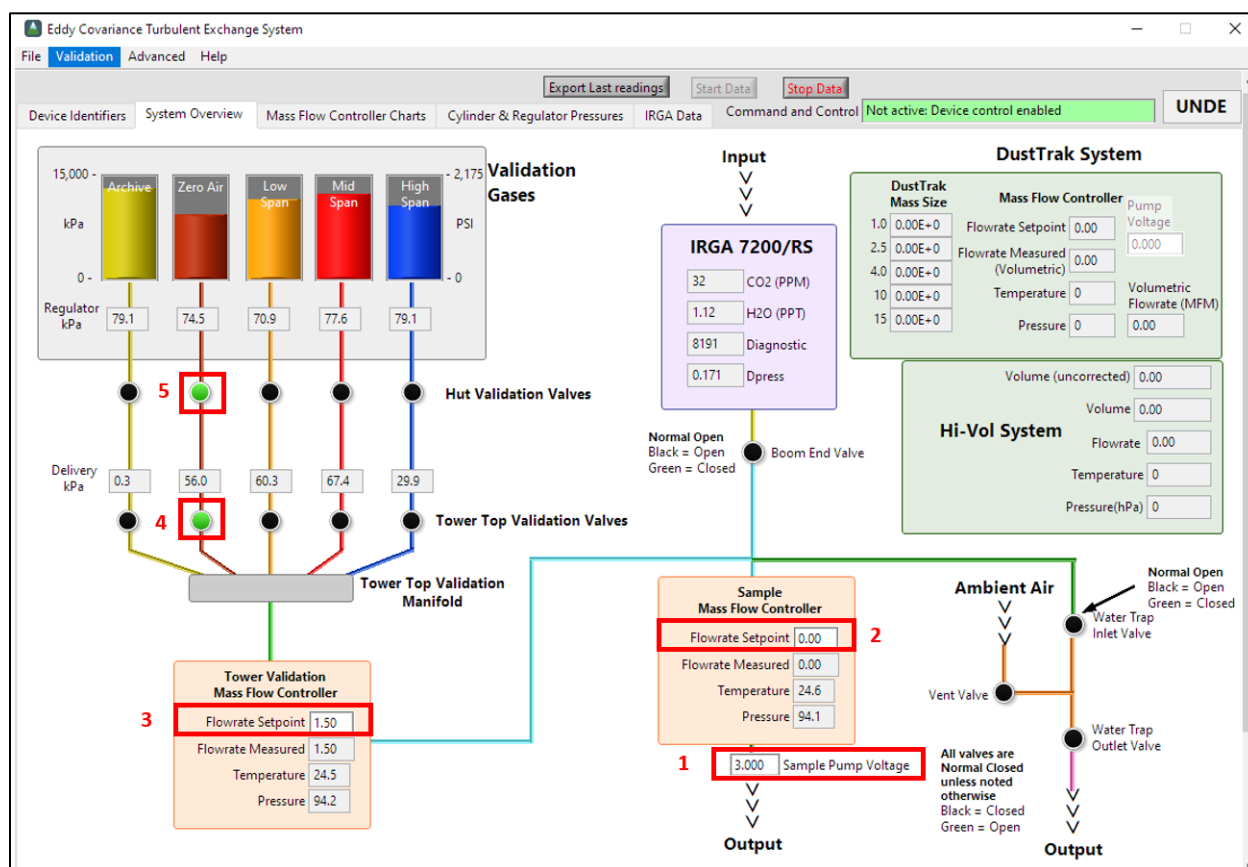

Figure 16. ECTE IS Control and Monitoring Suite Software.
3. For the ECTE system (Figure 16 on the next page):
- Set the IRGA pump voltage (1) and sample MFC setpoint (2) to zero by typing 0 into the field, set the tower validation MFC (3) to 1.5 SLPM, open the tower top validation valve (4) for the line that you are bleeding pressure from. Then open the hut validation valve (5) for the corresponding line.